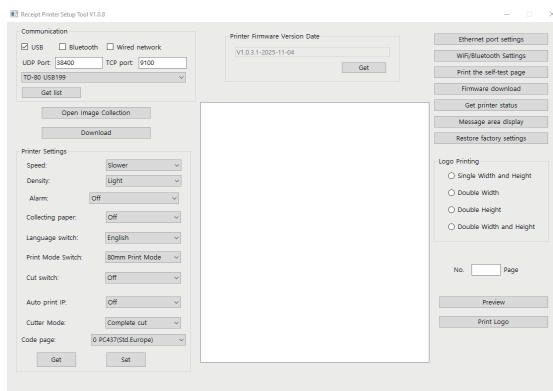

Fig.1
- ① Keep the USB cable properly connected. Open the setup tool (see Figure 1).